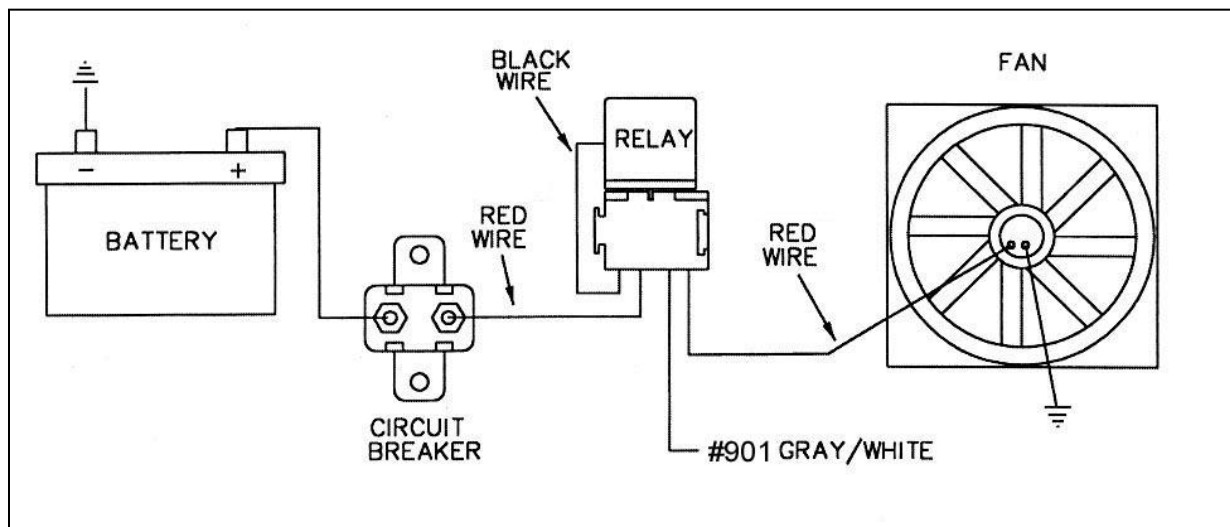

Figure 8.3 Typical Fan Relay Installation (**Painless part #30101 Fan Relay Kit**)
- 8.2.4** Connect HEADLIGHT SECTION A wire #901 (gry/wht) to the Electric Fan Relay. This wire is an activation wire for the relay, **NOT A POWER FEED**. See **Figure 8.3**, an illustration of a typical fan relay installation. The gry/wht wire #906 of ACCESSORY SECTION B+ and gry/wht wire #901 of ACCESSORY SECTION SWITCHES connect to the electric fan switch in the dash.
Note: The wire going to the fan in Figure 8.3 will be coming from the fan relay output terminal. The gry/wht wire #901 from the ACCESSORY SECTION SWITCHES is an activation wire for the fan relay.